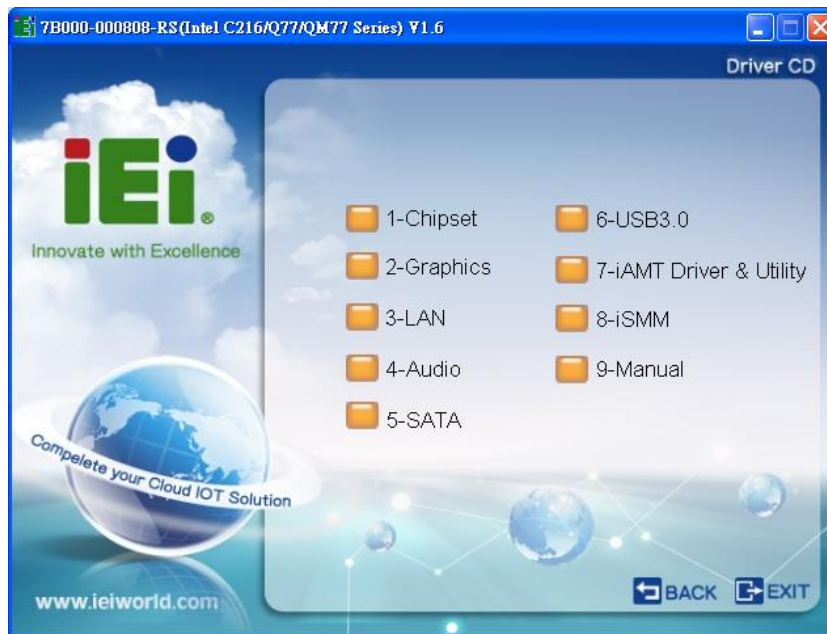

Figure 6-1: Available Drivers
Step 3: A new screen with a list of available drivers appears (**Figure 6-1**).